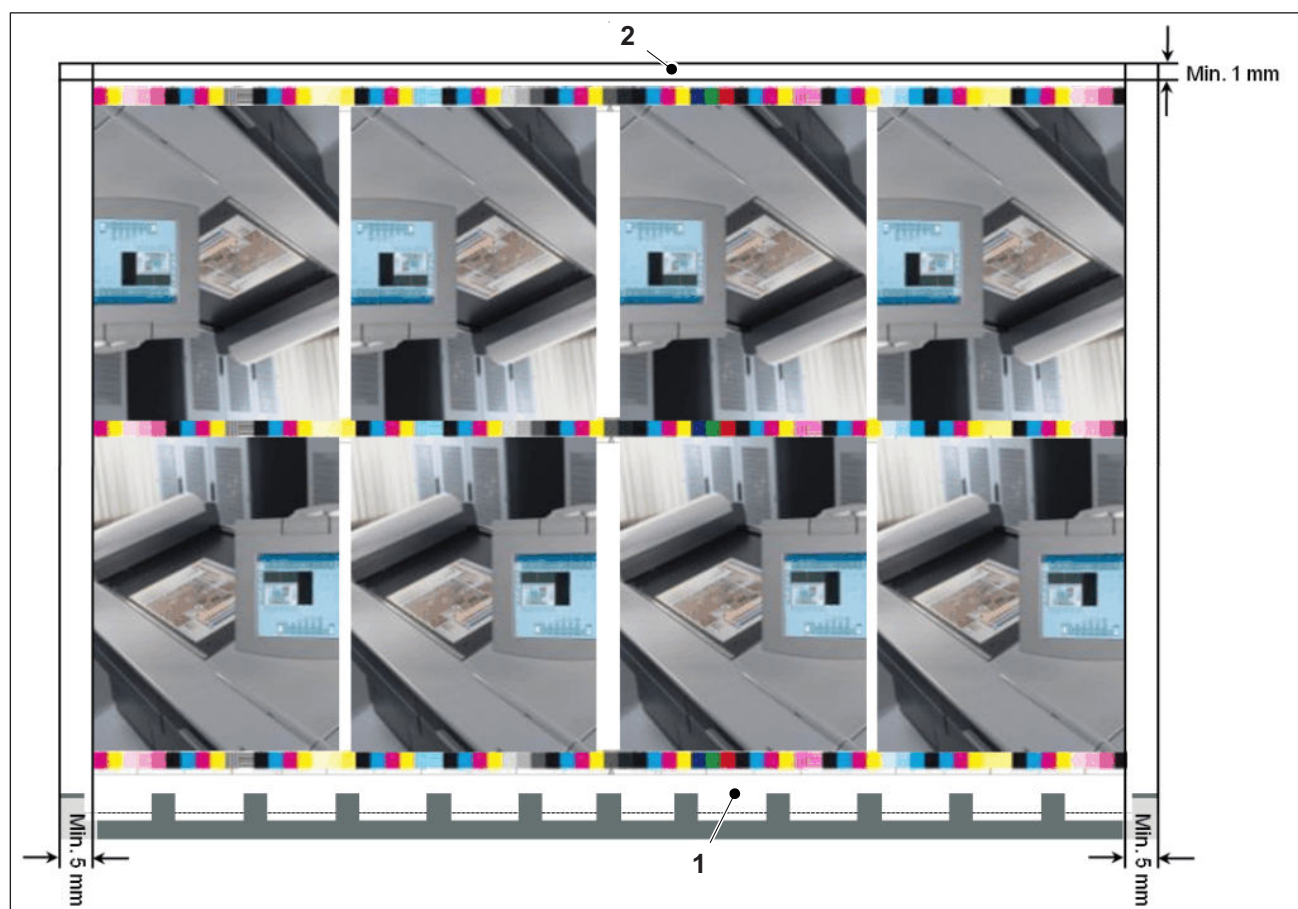

Fig. 34 Mounting with Prinect Image Control
- You can mount the quality control strip at any position you wish between the gripper margin (Fig. 34/1) and the rear edge of sheet (Fig. 34/2).